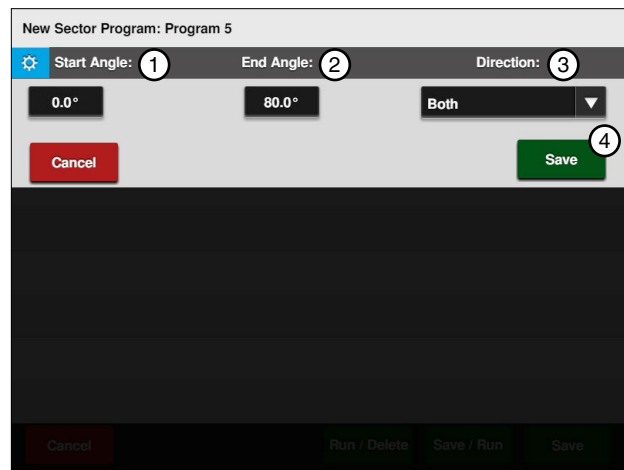

Figure 142-2 1. Start Angle 2. End Angle 3. Direction 4. Save
6. Select the **End Angle** field. Refer to Figure 142-2.
14. Finish the program by selecting one of the following. Refer to Figure 142-2.